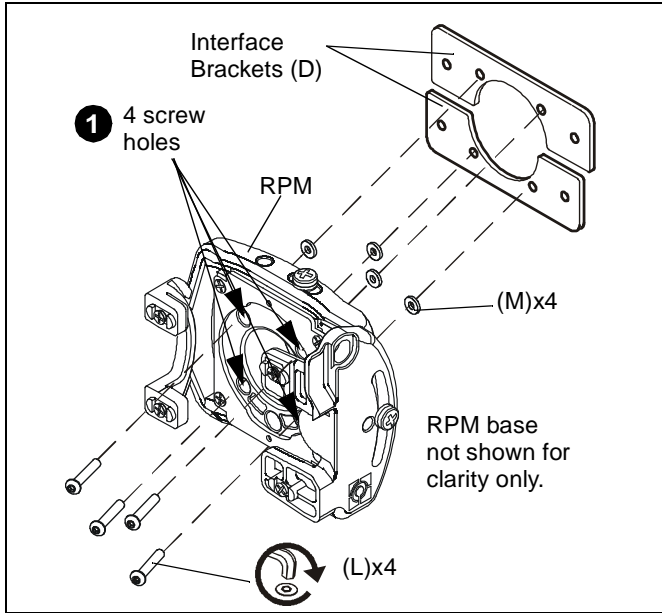

Figure 3
2. Place RPM on its top so that four screw holes are visible through the square in the RPM base. (See Figure 3)
3. Insert four 1/4"-20x1-1/2" (L) button head cap screws into the bottom of the RPM. (See Figure 3)
NOTE: The RPM base is not shown in Figure 3 for clarity only. It should NOT be removed for this installation process.
4. Place four nylon spacers (M) onto the screws as shown in Figure 3.
5. Tighten the screws through the nylon spacers and into the two interface brackets (D). (See Figure 3)